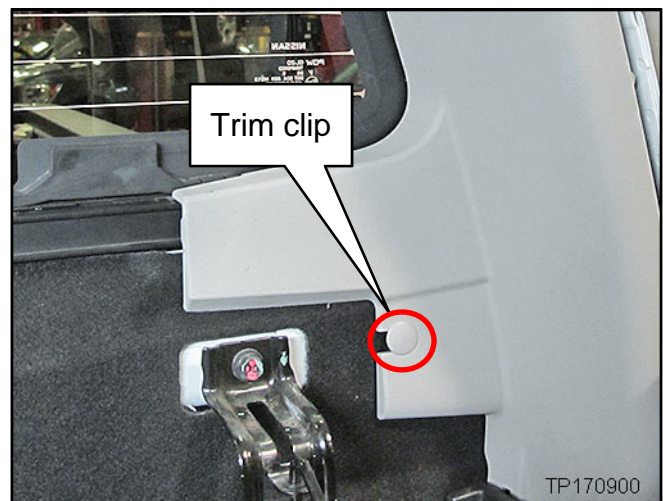

Figure 8
6. Gently remove the trim clip shown in Figure 8.